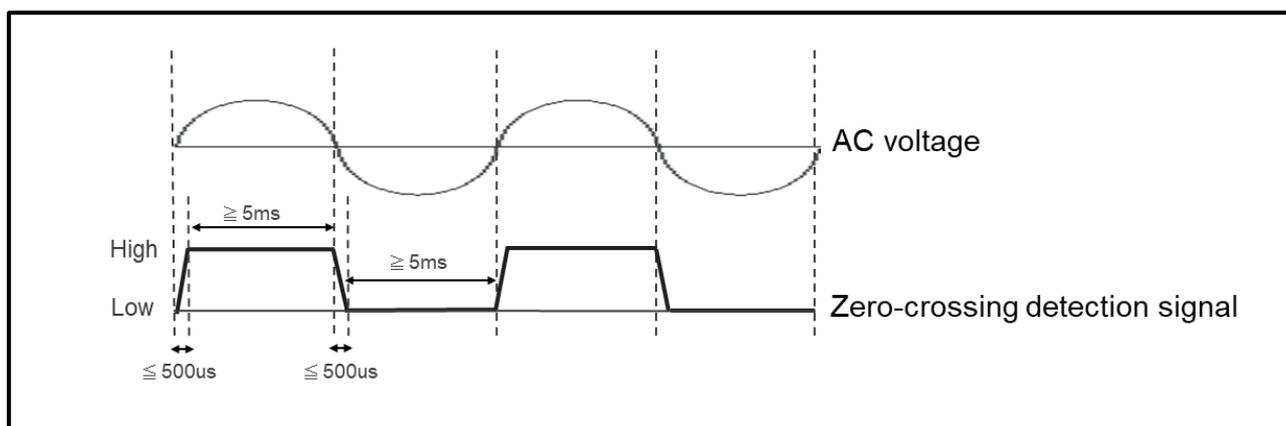

Figure 3-9 The zero-cross detection signal
- Design the zero-cross detection circuit to be the zero-cross detection signal shown in Figure 3-9.